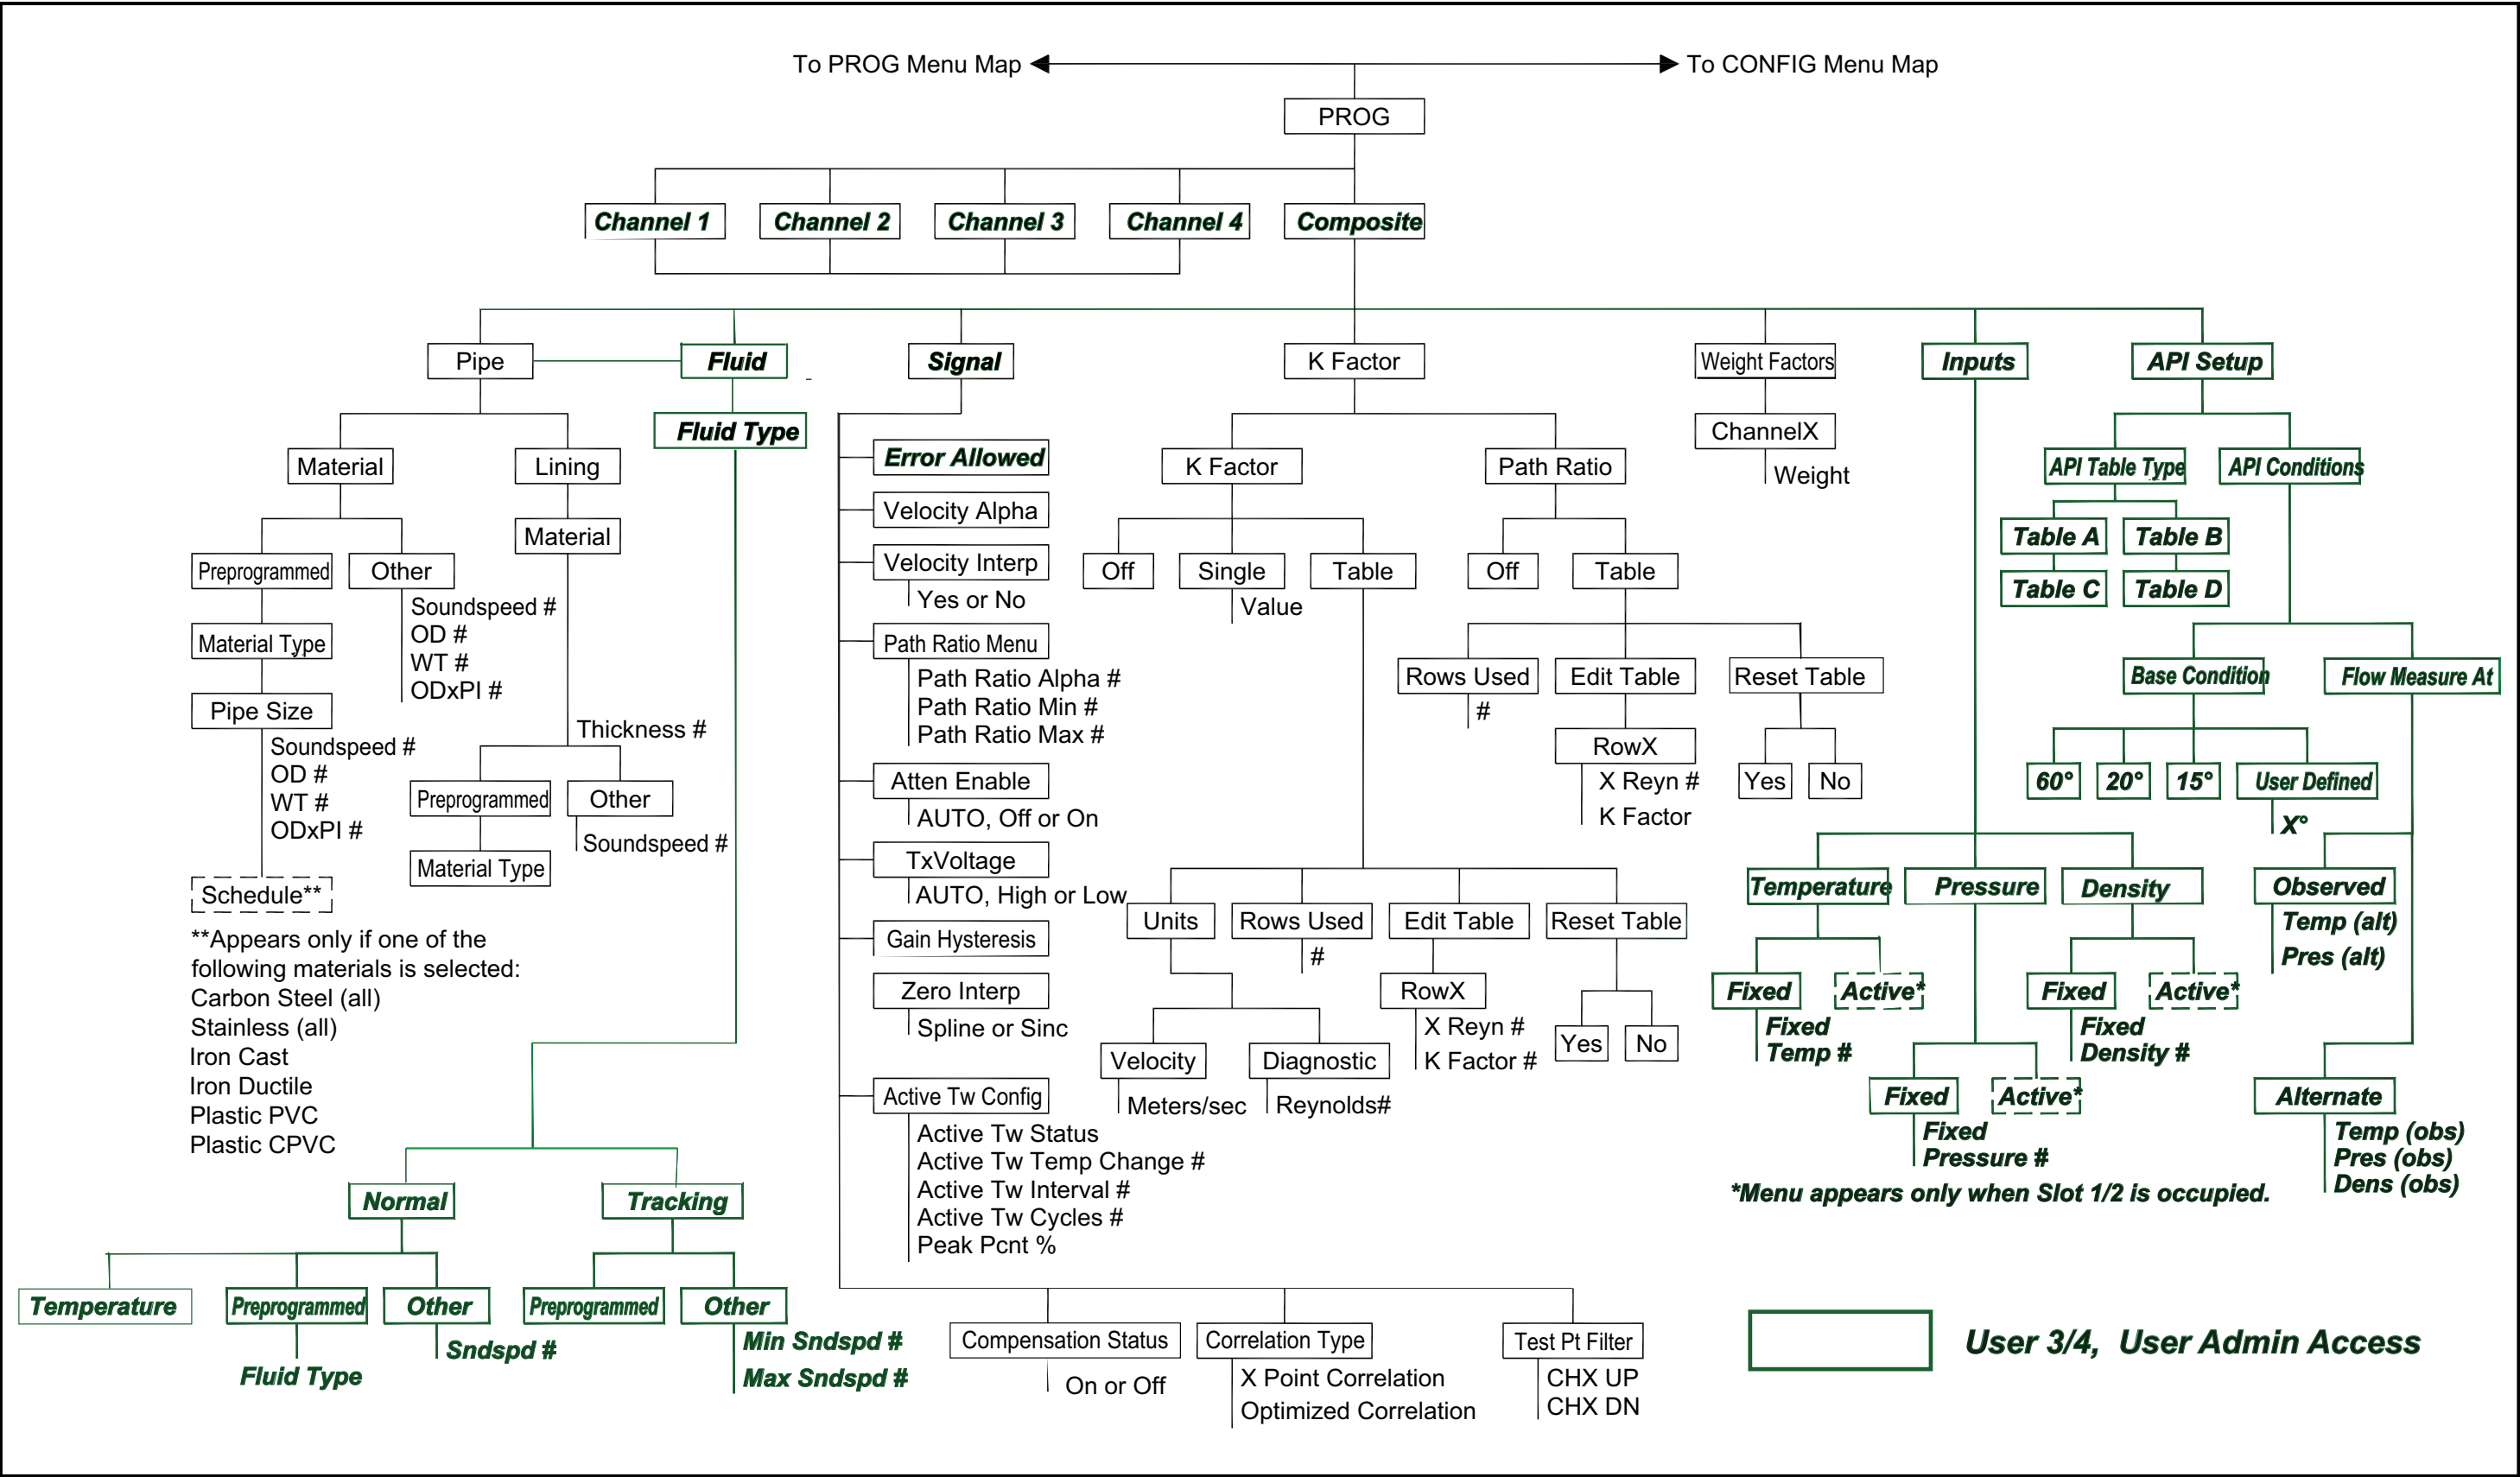

Figure 68: PROG-COMPOSITE menu map
- *Figure 68, “PROG-COMPOSITE menu map” on page 111*